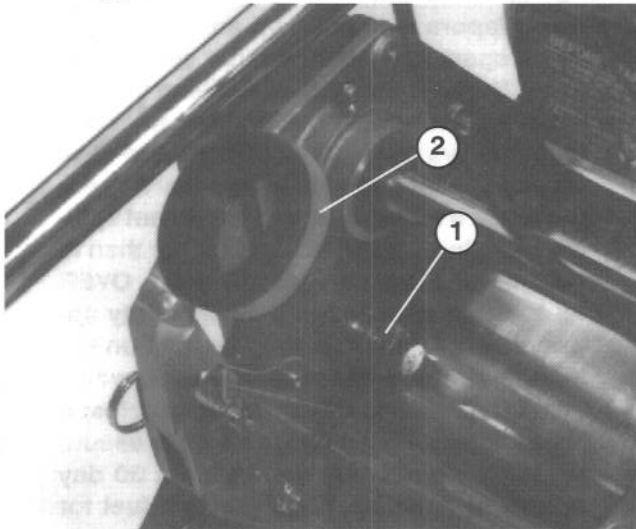

Figure 1
1. Remove capscrew, washer and lockwasher from mounting pin on each side of mower, as shown in fig. 1.
2. Insert handle ends thru holes in handle arms and align holes with mounting pins (Fig. 1).